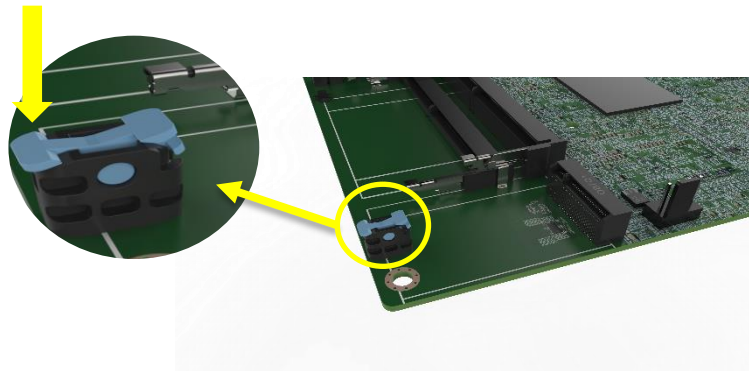

Figure 4-11: Press the Retainer
Step 1: Press the retainer down as shown below. (See Figure 4-11)
Step 5: If you want to remove the M.2 module, you should press the retainer down as described in Step 1 to release the M.2 module.. (See **Figure 4-11**)